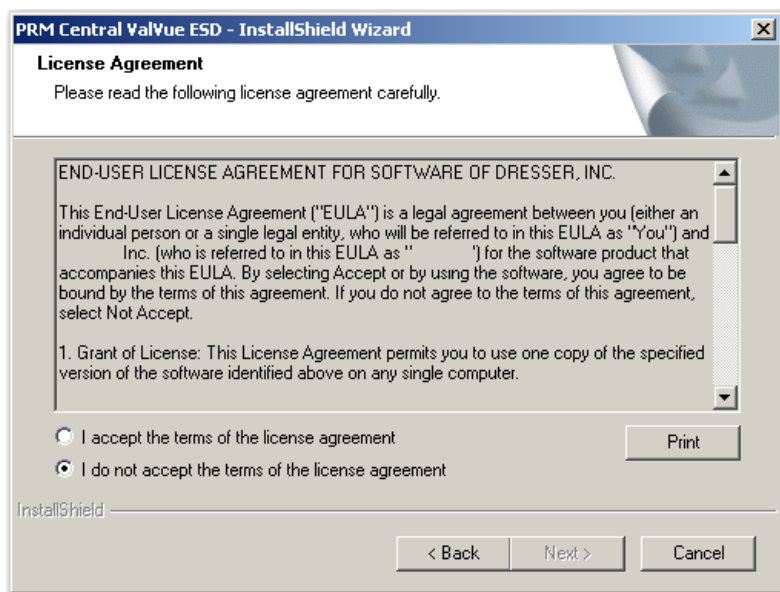

Figure 8 - PRM Central Server License Agreement
3. Click **Next** and the *License Agreement* screen appears (*Figure 8*).